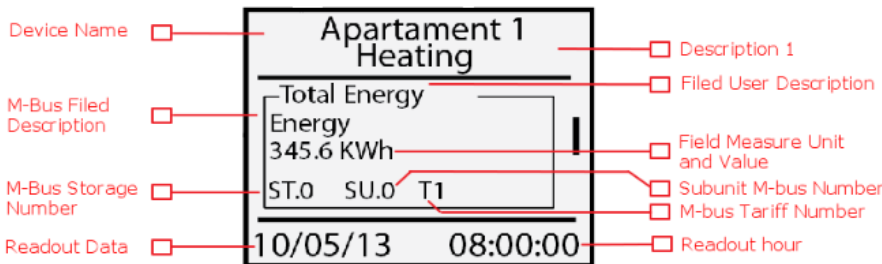

Figure 13 - Wired meter data reading
- **2-2:** press OK in correspondence of a meter in the list to view the values of the last reading (if any). The first frame, indicated in Figure 13, is common to all three meters, as it is a summary of the main information pertaining to the meter, such as the M-bus status byte value, meter reading value, and the full serial number. If the M-Bus status byte is different from zero, it indicates possible meter anomalies. In the event that a meter is included in the datalogger database, you can identify an anomaly by accessing the web server and consulting the Devices page in the Settings menu. In the event that the meter is not included in the datalogger database, refer to the meter user guide to identify the anomaly corresponding to the number indicated in the M-Bus status Byte